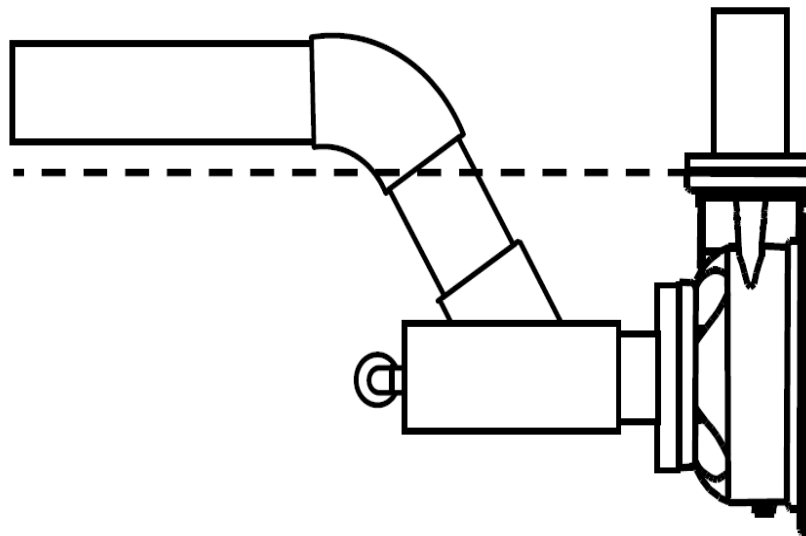

Figure 1 Water trap
1. The suction line must be constructed such that a water trap is created. This means that the bottom of the suction line must be above or at the same height as the flange of the pressure side of the pump. This can be simply achieved by extending the sloping part of the Y-piece on the suction side with a short piece of pipe and then continuing with a 45° bend or knee. This can be followed by a horizontal piece of PVC pipe after which the suction pipe, if required with a bend downwards, can be installed. See figure 1 for example.